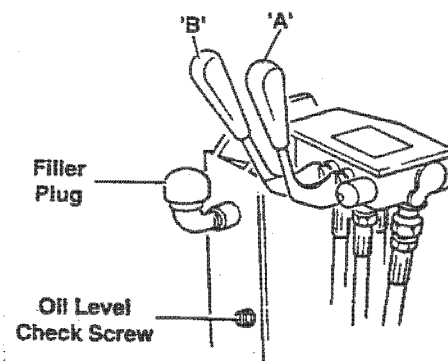

FIG. 11
- Add 2 1/2 more quarts of hydraulic oil or until oil runs out the check hole. Replace oil fill plug and oil check screw. (See Fig. 11).